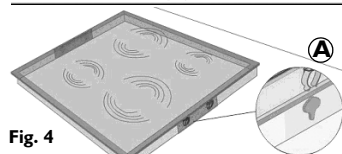

Fig. 4
- Insert the cook hob into the pre-prepared hole ensuring that the clips **(A)** lodge into the bracket slots provided **(C Fig. 4 e 5).**